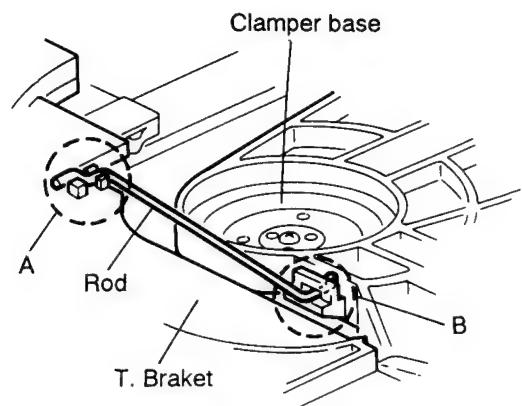

Fig. 5-25
(See Figs. 5-25 — 5-31)
4. From the T. bracket section (A) and clamper base section (B), remove both of the edges fixing the rod (See Figs. 5-25 and 5-26).
5. Remove the three screws (1) retaining the T. bracket (See Fig. 5-25).